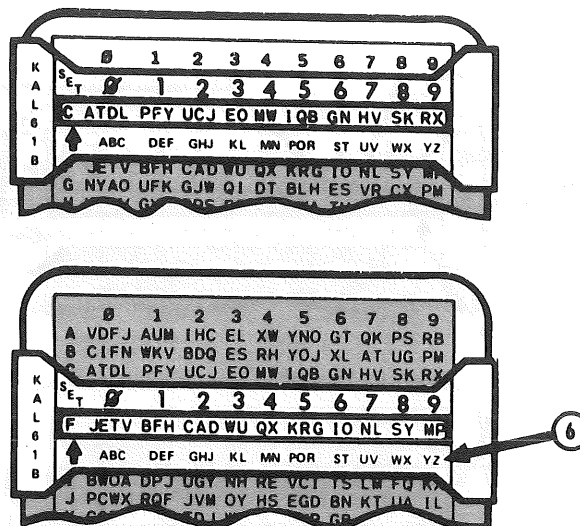

Figure 3. KAL-61B with KTC-1400 Numerical Code.
3. Encrypt grid zone letters. (Refer to fig 3 and CEOI Item for Numerical Cipher Authentication.)